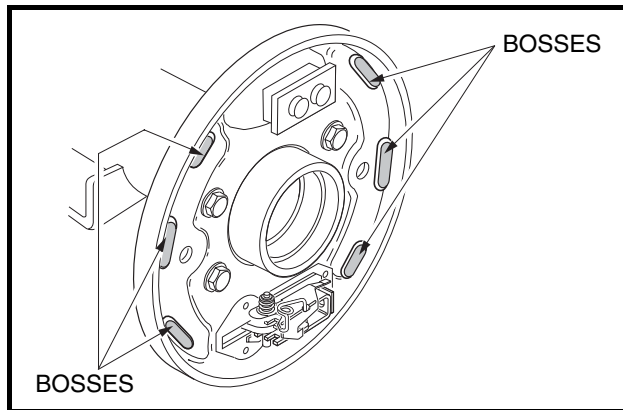

Figure 6-8 Lubricate Raised Bosses
4. Use a small brush to carefully apply a light coat of white lithium NLGI #2 grease (Dow Corning BR2-Plus or equivalent) on each of the six raised bosses on brake backing plate (Figure 6-8, Page 6-4). See preceding WARNING.